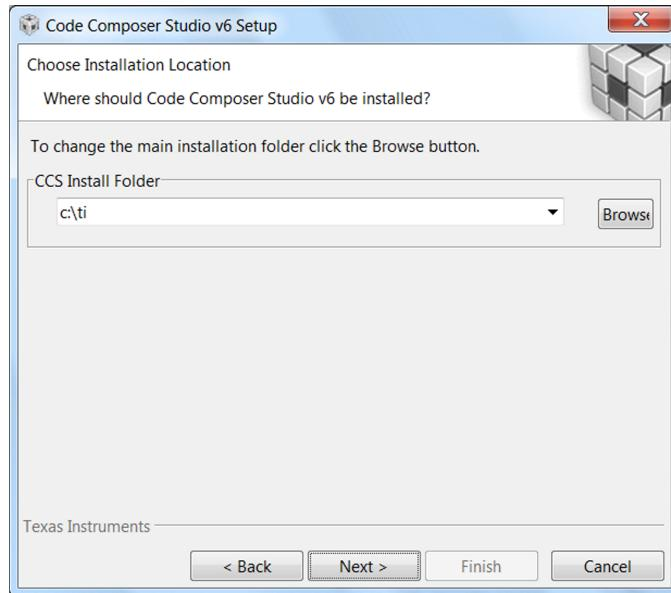

Figure 10. Default Installation Location for CCS
- Step 3. Choose a destination directory. Using the default (c:\ti) removes a step in the SDK installation procedure (see Figure 10).